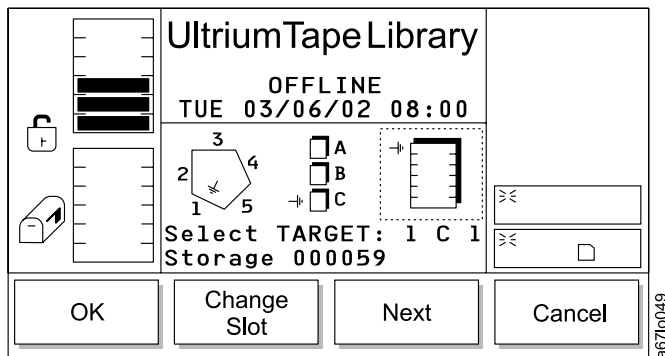

Figure 117. Change Slot Dialog
- If **Next** is selected, the current source parameter changes from magazine to slot and the Change Slot Dialog displays (see Figure 117).